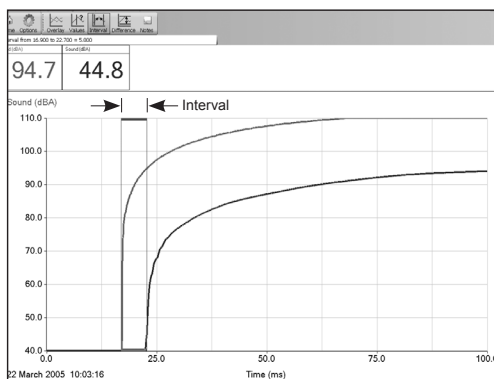

Fig.1: Result when using the dBA range
E.g. Fig 1. = $\frac{2 \text{ m}}{5.80 \text{ ms}} \times 1000 = 344.8 \text{ m/s}$